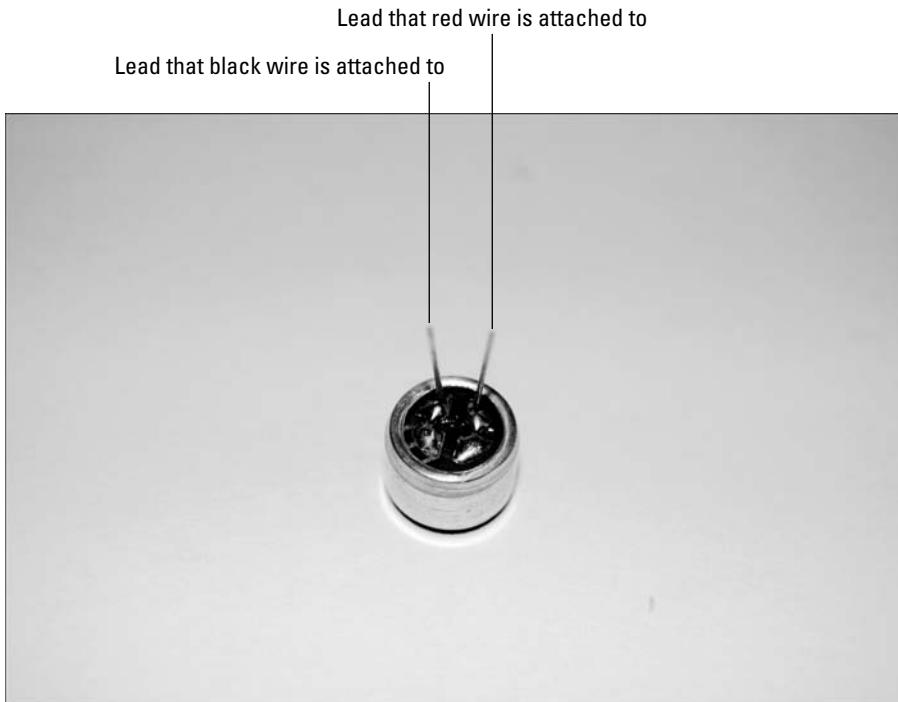

Figure 14-12:
- Figure 14-12 shows which lead of the microphone you should solder the red and black wires to.